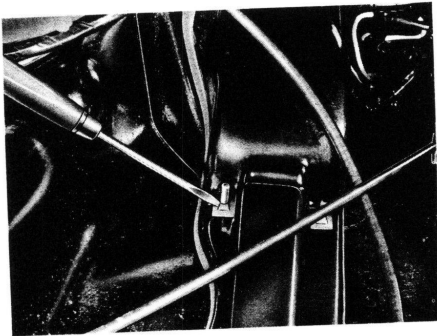

Fig. 6
5. Take off the cover plate for the intermediate steering shaft. (To simplify this job, bend up one of the retaining tongues of the spring nut with a small screwdriver - see Fig. 6.)